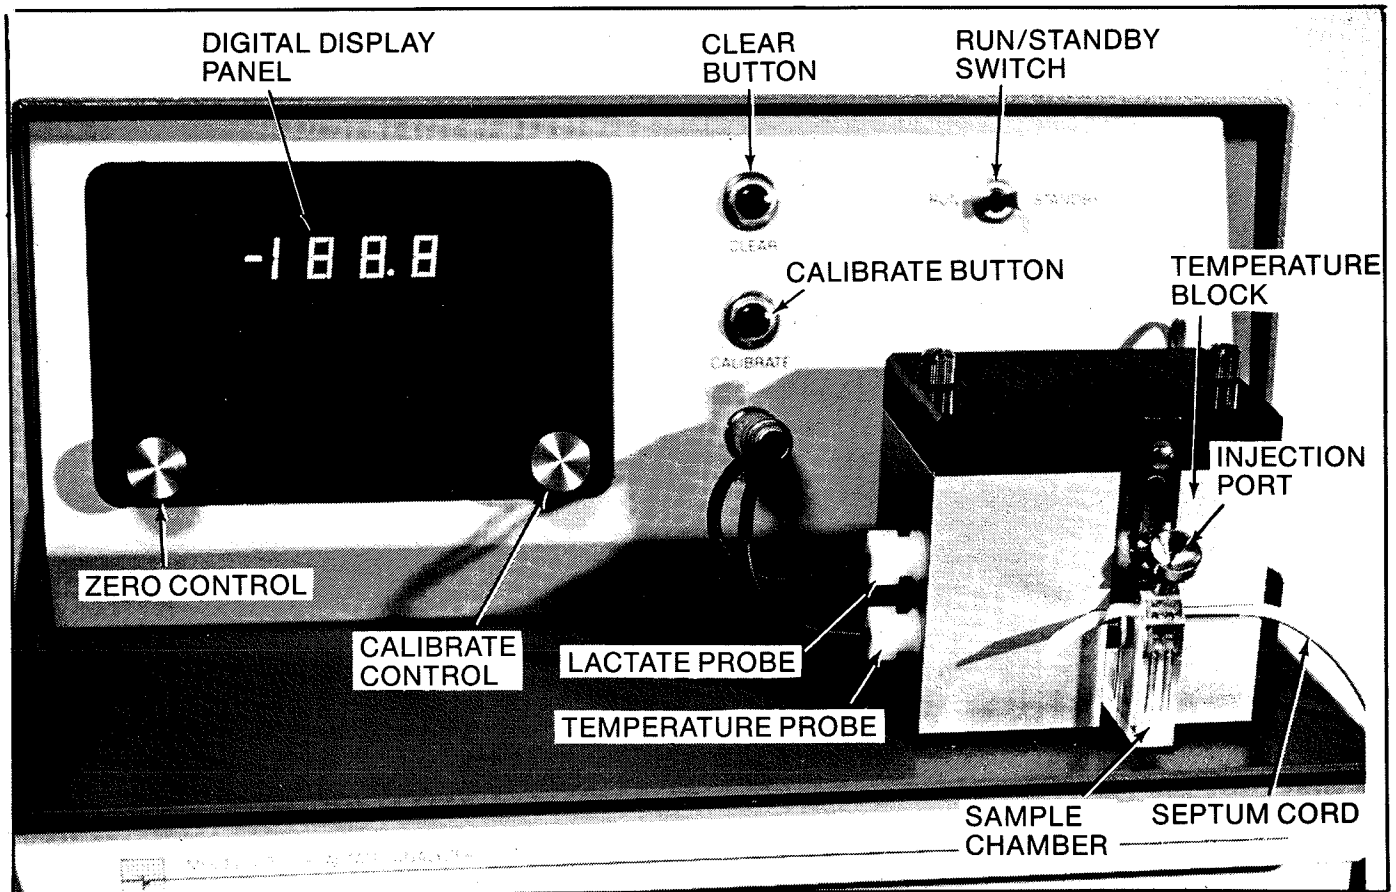

Figure 7. Front panel controls and components.
3. Flip the RUN/STANDBY switch on the front panel of the instrument to STANDBY. (See Figure 7.)